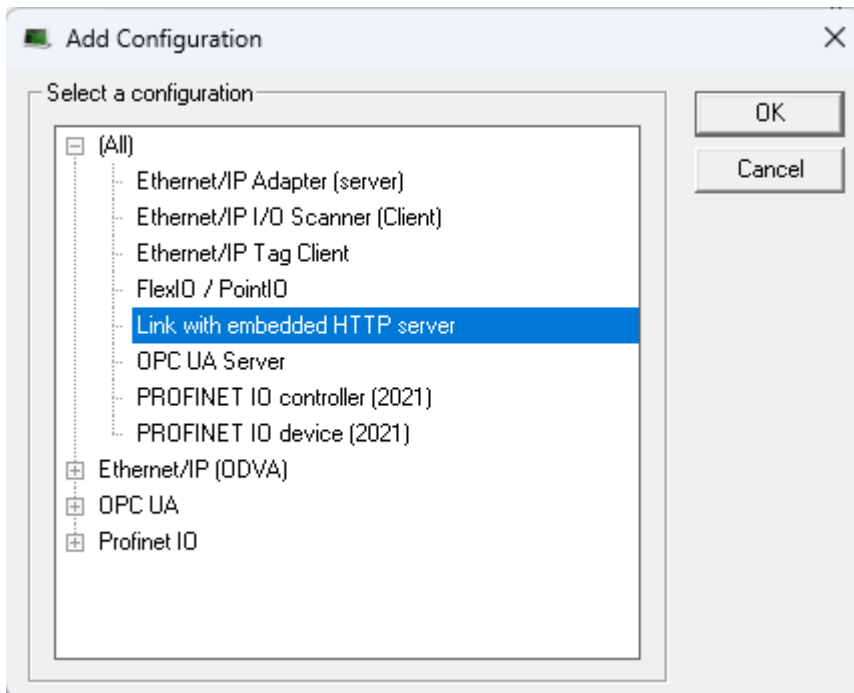

Figure 2-7: Add Configuration dialog box
3. In the configuration tree, select **Link with embedded HTTP Server**. (Figure 2-7)